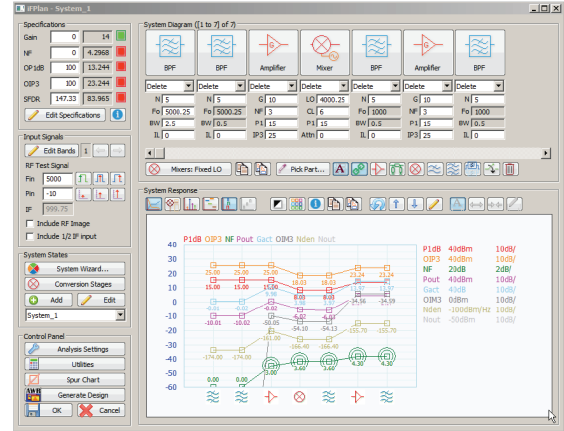

Figure 2: RFP interface showing system response and measurements
More than a spreadsheet, RFP delves deeper than common spreadsheet analysis calculations and displays clear results with several options when viewing simulations. For example, a tabular result of in-band and out-of-band signals can be generated in real time as a frequency of interest is swept. In addition to showing the particular power levels and frequencies of the signals, the root causes of the signals can also be displayed. Mixer spur charts and traditional spectrum plots can also be viewed. Furthermore, RFP gives engineers the first cut of cascaded measurements, such as noise figure (NF), gain compression (P1dB), signal-to-noise-ratio (SNR) and third-order intermodulation (IM3), as well as spurious free dynamic range (Figure 2).